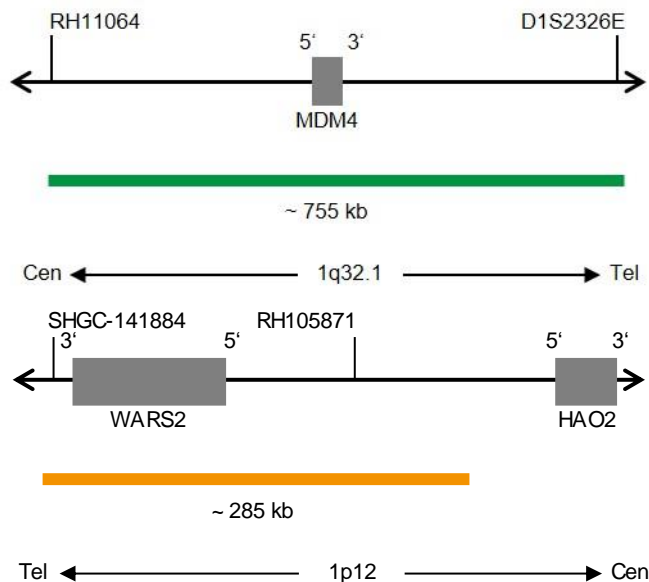

Fig. 1: Top: SPEC MDM4 Probe map, Bottom: SPEC 1p12 Probe map (not to scale)
- ZyGreen (excitation 503 nm/emission 528 nm) labeled polynucleotides (~10 ng/μl), which target sequences mapping in 1q32.1* (chr1:204,126,022-204,882,307) harboring the MDM4 gene region (see Fig. 1).
- ZyOrange (excitation 547 nm/emission 572 nm) labeled polynucleotides (~4.5 ng/μl), which target sequences mapping in 1p12* (chr1:119,537,102-119,823,147) (see Fig. 1).